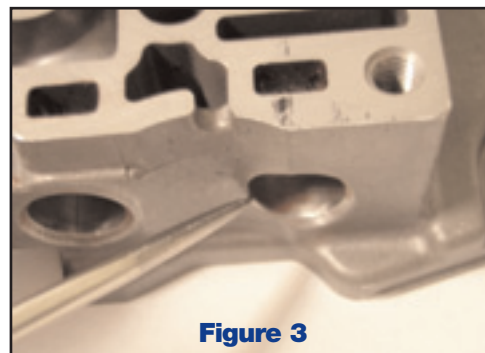

Figure 3
3. Remove the ridges identified in step 2. The recommended method is to use a 3/8" diameter flap wheel chucked in a miniature die grinder. Any method that removes the ridge without damaging the bore is acceptable. Remove the ridge and smooth the transition from the chamfer into the bore. If the ridge is not eliminated, it will destroy the o-ring. In the case of the 3rd Gear Band (B4) Release Valve, it is necessary to form a small chamfer (approximately .020" to .030" deep) along the contoured edge of the valve bore (see Figure 3).